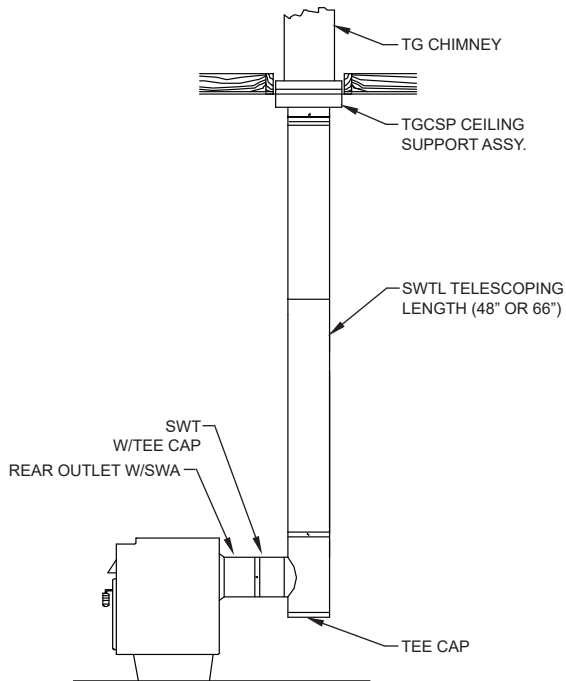

FIG. 4
6. For rear outlet stoves, the Tee (SWT) is used to direct the exhaust upward. The SWA-1 is required between the stove outlet and the SWT (See **FIG. 4**).